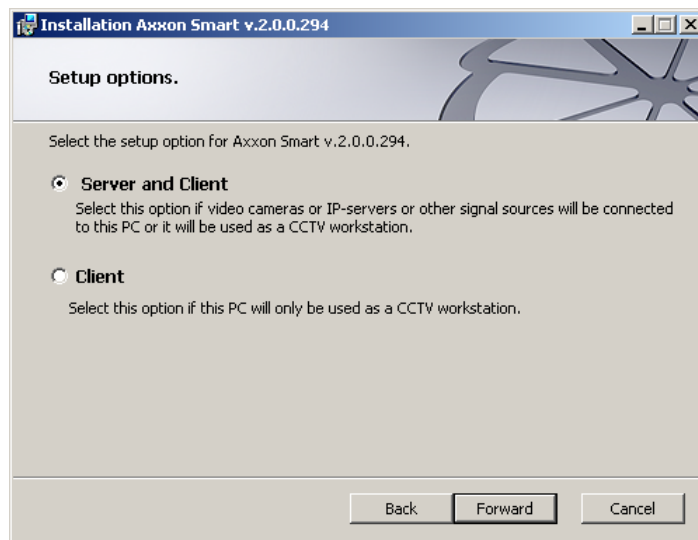

Fig. 3.2—6 Selecting installation type
7. Specify the directory in which to install Axxon Smart onto your computer and click **Next** (Fig. 3.2—7).